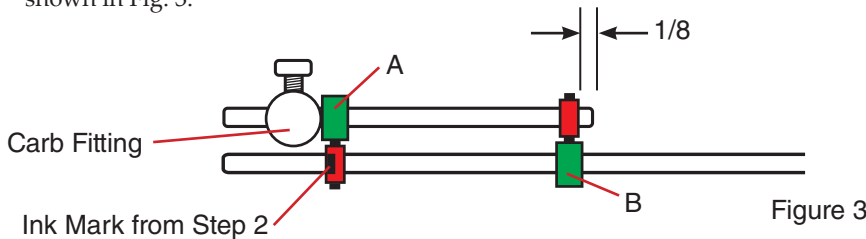

Figure 3
- Slip iTroll's stainless steel throttle rod through carb fitting and through slip connectors as shown in Fig. 3.
- HOLD slip connector "A" in Fig 3 against brass carb fitting.